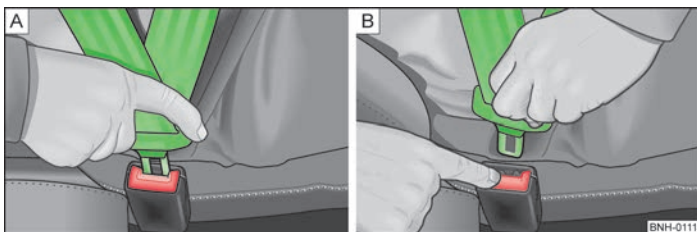

Fig. 79 Fastening/unfastening the seat belt
- Insert the lock tongue into the belt buckle » Fig. 79 - [A] that is part of the seat until it clicks into place.
- Press the red button in the belt buckle » Fig. 79 - [B], the lock tongue pops out.